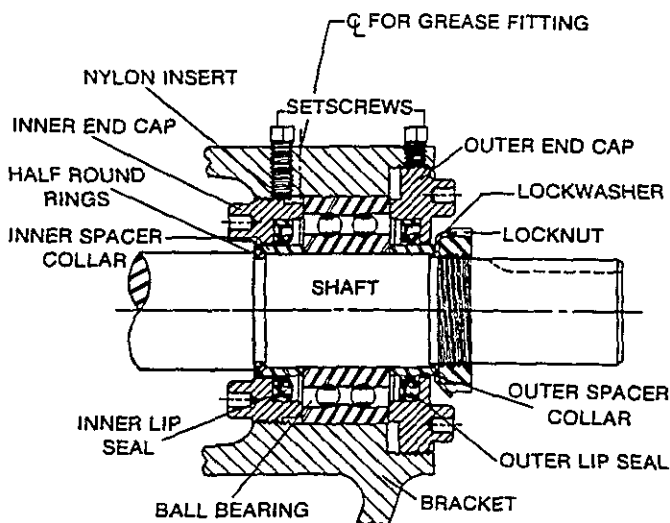

FIGURE 6
8. Loosen setscrews. Two on G, H and HL size pumps, four on all other sizes. With a spanner wrench, remove both end caps with lip seals. Remove ball bearing and spacer collars. Refer to Figure 6.
Place pair of half round rings on shaft and slide inner bearing spacer collar over half round rings to lock them in place. There is no pair of half round rings on G, H and HL size pumps. Refer to Figure 6, page 4.
8. Press lip seal, lip facing end of shaft, in inner end cap and insert end cap through shaft end of bracket. Turn end cap clockwise, looking at shaft end, until it engages threads. End cap spanner wrench holes must be facing rotor. Turn end cap with spanner wrench until it projects slightly from opening on side of bracket. End cap must not be turned so far that lip seal drops off end of spacer collar on shaft or end cap becomes disengaged from threads. Refer to Figure 6, page 4.
10. Press lip seal, lip facing end of shaft, in outer end cap and insert end cap in bracket. Turn end cap in bracket until it is tight against bearing. Refer to Figure 6, page 4.
7. Loosen setscrews. Two for G, H and HL size pumps, four for all other sizes. With spanner wrench remove both end caps and lip seals. Remove ball bearing and spacer collars. Refer to Figure 6, page 4.